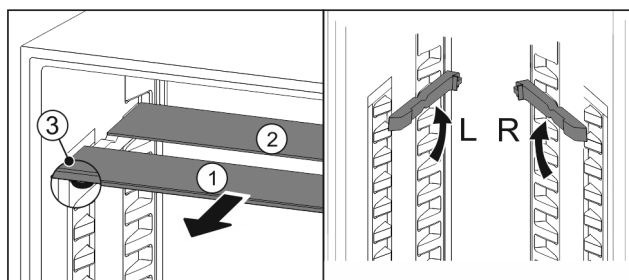

Fig. 120
- Pull the glass panels out *Fig. 120 (1)* from the front, one at a time.
- ▷ The glass panel *Fig. 120 (1)* with the trim strip is at the front.
- ▷ The stops *Fig. 120 (3)* point downward.